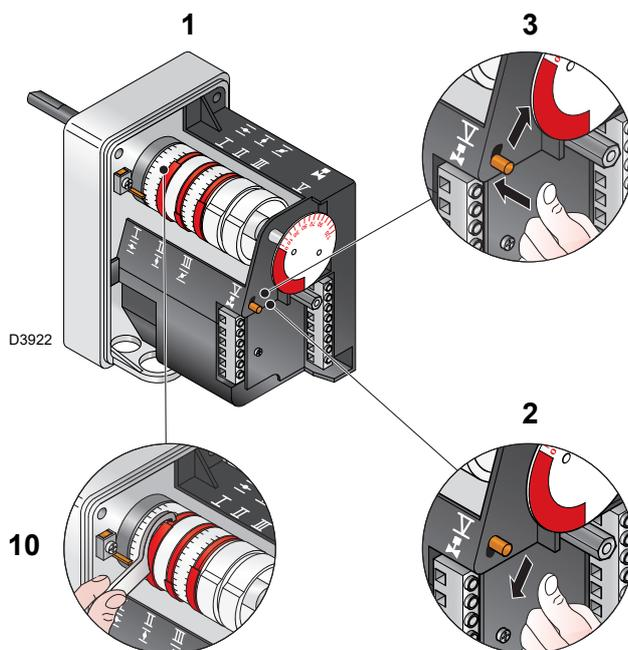

Fig. 32
- For any necessary adjustment of cam III, especially for small movements, use the specific key 10) (Fig. 32) held in place beneath the servomotor with the aid of a magnet.
Key (Fig. 32)